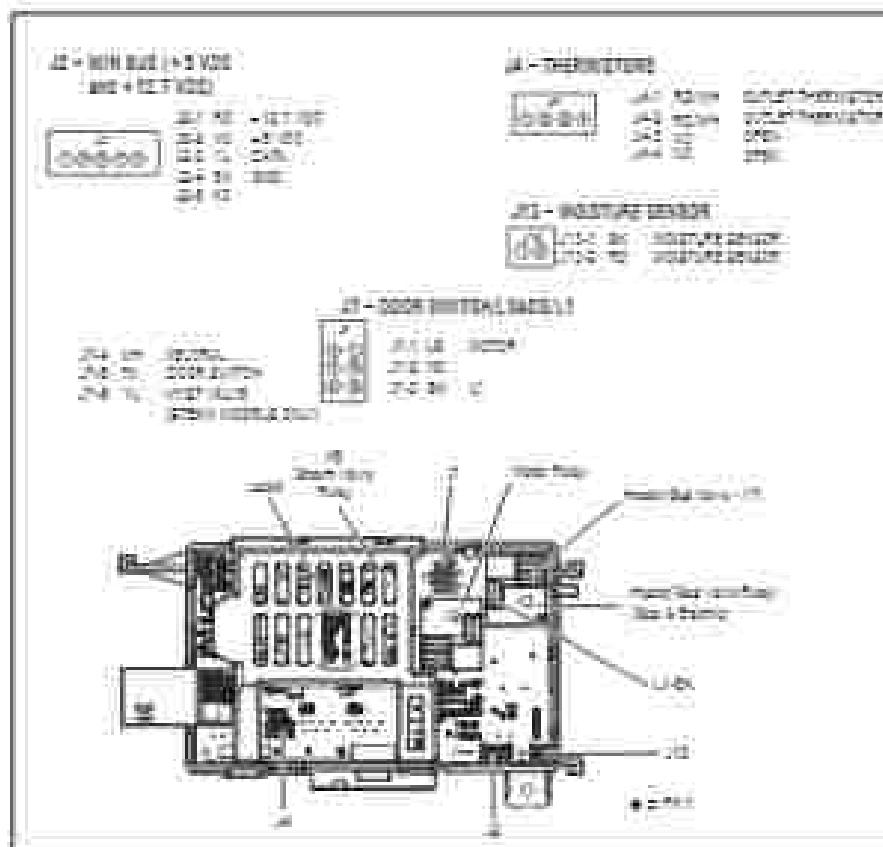
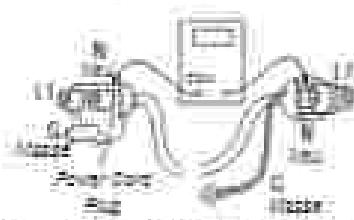

Figure 1 - ACU Connections and Pinouts.
Figure 5 - Power cord terminals, gas dryer.
5. ACU VAC ~ With voltmeter set to AC, connect black probe to ACU 27-4 (L1) and red probe to 27-5 (L1). (See Figure 1.) Plug in dryer or disconnect power.
5. With an ohmmeter, check for continuity between the neutral (N) terminal at the plug and JT-3 (white wire) on the ACU. The left-hand side of figure 5 shows the position of the neutral terminal (N) on the power cord plug. See figure 1, page 12.
7. If there is no continuity, disconnect the white wire of the main harness from the power cord at the connector (located in figure 4). Test the continuity of the power cord neutral wire as described in figure 5. If an open circuit is made, replace the power cord. Otherwise, go to step 8.
10. If there is no continuity, check the continuity of the power cord in a manner similar to that described in figure 5, but for power cords JT-1 (red).